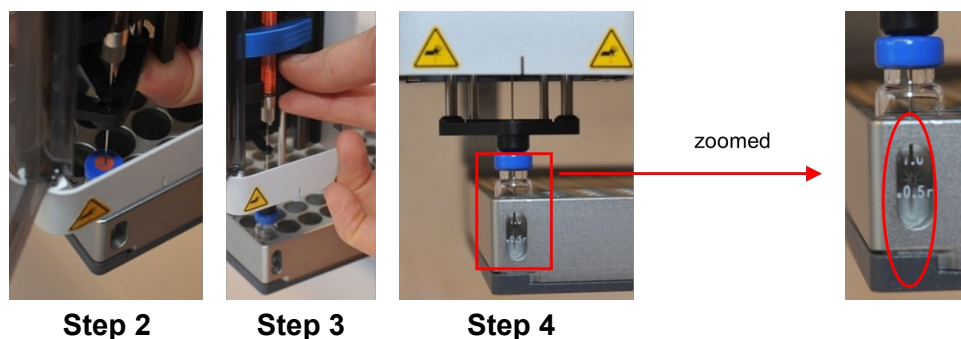

Figure 54: Autosampler Configurator/Teaching Sample Depth Vial
2. Check if the needle is in the middle of the septum (**Figure 54, Step 2**). If not, re-train the sample tray.
3. Take the syringe holder between two fingers and move it downwards (**Figure 54, Step 3**).
4. Push the needle carefully through the septum and position it to the desired depth as displayed in (**Figure 54, Step 4**).